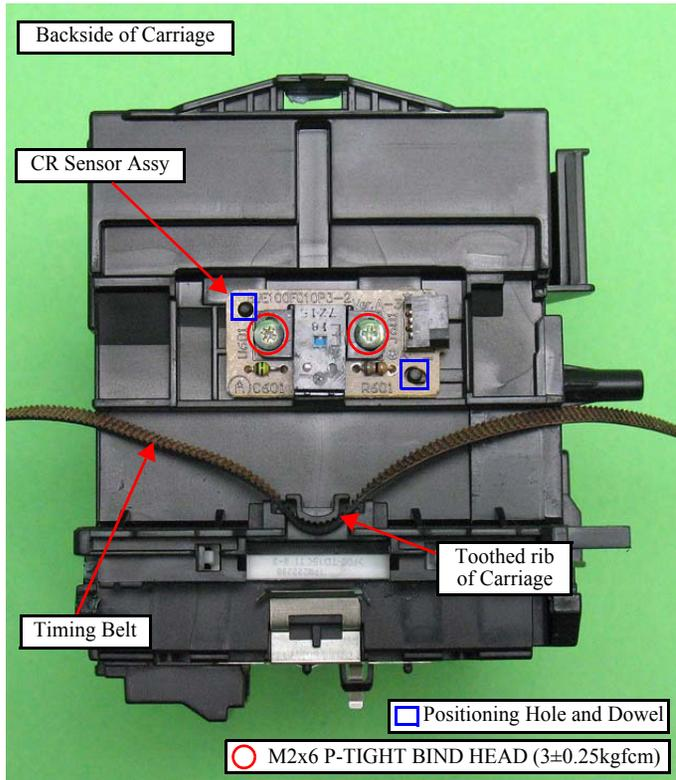

Figure 4-82. Removing the CR Unit (4)
- Align the toothed side of the Timing Belt with the same shaped rib of the Carriage without any twist. (See Fig.4-82.)